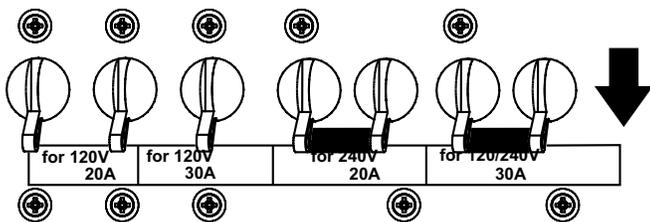

Figure 28. GFCI/AUX. Circuit Breakers (OFF)
2. Place **GFCI** and **AUX.** circuit breakers (Figure 28) in the **OFF** position.